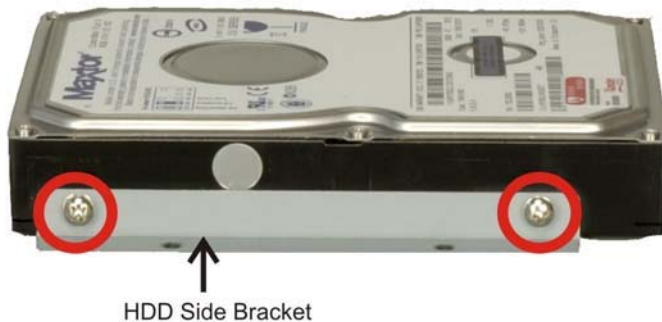

Figure 3-15: 2901250 HDD Bracket Retention Screws
Step 2: Attach the HDD brackets to the HDD. To do this, align the two retention screw holes in each HDD bracket with the retention screw holes on the side of the HDD. Insert two retention screws into both brackets on both sides of the HDD (**Figure 3-15**).